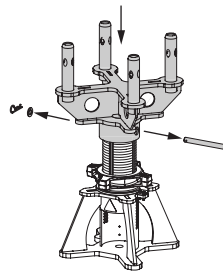

Fig. 23c
2. Loosen cotter pin (14b) and remove plate (14c). (Fig. 23c)
3. Remove connecting bolts (14a). Connector UJC (14) slides downwards and the spherical piece (14d) is positioned on the spindle tube (2). (Fig. 23c)